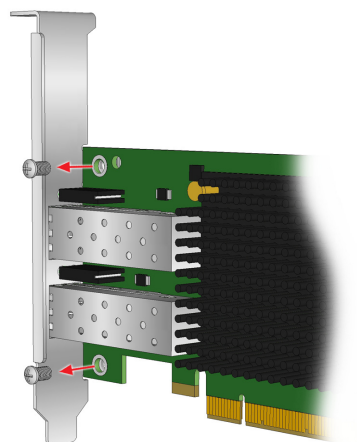

Figure 2-3 Removing the Bracket
4. Remove the mounting bracket screws from the top of the adapter. Figure 2-3 shows the screws that are removed from the bracket.